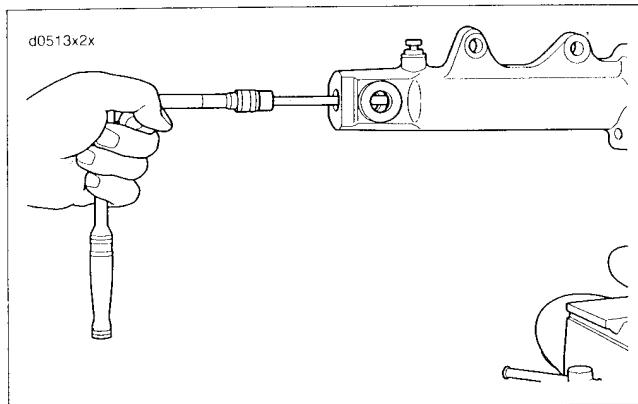

Figure 2-92. Socket Head Bolt
9. See Figure 2-92. Remove the socket head bolt.
11. See Figure 2-92. Hold slider in vise taking precautions to avoid damage. Install damper tube into the fork tube. Tighten socket screw and washer. Torque to 22-29 ft-lbs (29.8-39.3 Nm).